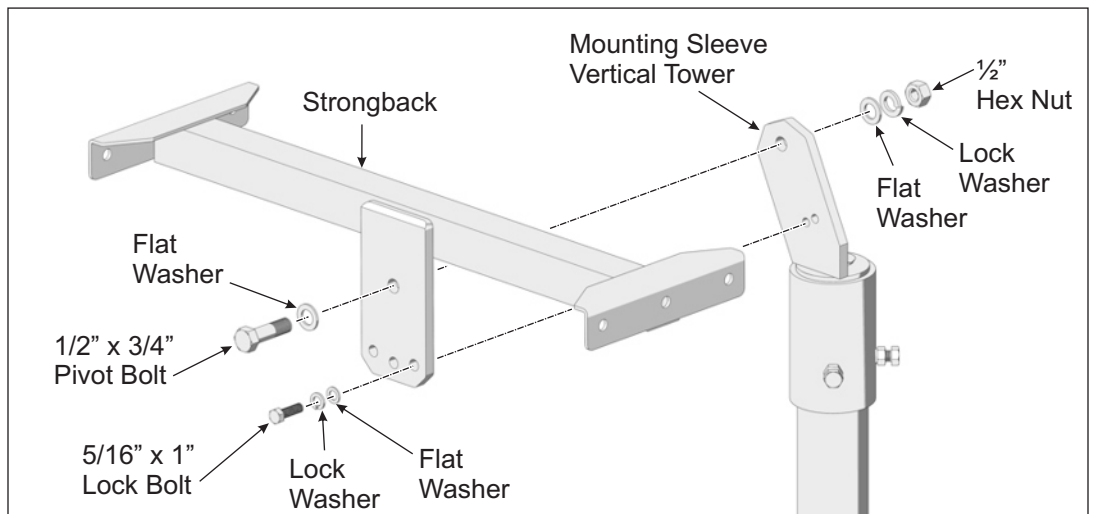

Figure 2-2: Installing the Strongback
- B. Position the Strongback to the Mounting Sleeve Vertical Tower as shown in Figure 2-2.